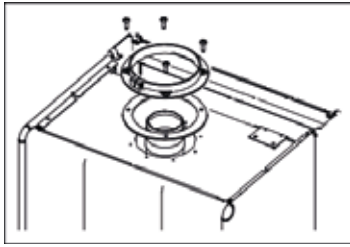

Figure 9a
- Fix the flue connection flange through screwing to the holes on the combi boiler by using the flange gasket. (Figure 9a-9b )